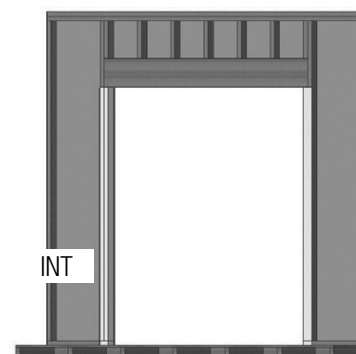

FIG. 3
- G) Fold back the WRB on the sides toward the interior and staple into place. (Fig. 3)